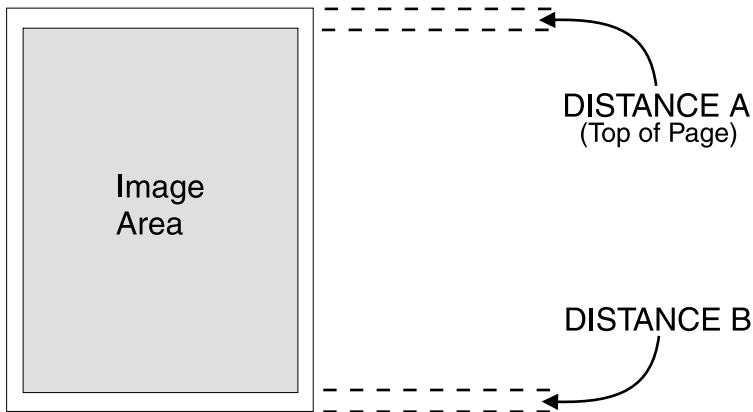

Figure 4-3 Image Area Margins
- 3 See figure 4-3 and compare distance A to distance B.